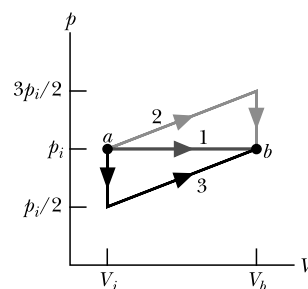

Figure 18.34 Problem 81.
**81 SSM** A sample of gas undergoes a transition from an initial state  $a$  to a final state  $b$  by three different paths (processes), as shown in the  $p$ - $V$  diagram in Fig. 18.34, where  $V_b = 5.00V_i$ . The energy transferred to the gas as heat in process 1 is  $10p_iV_i$ . In terms of  $p_iV_i$ , what are (a) the energy transferred to the gas as heat in process 2 and (b) the change in internal energy that the gas undergoes in process 3?